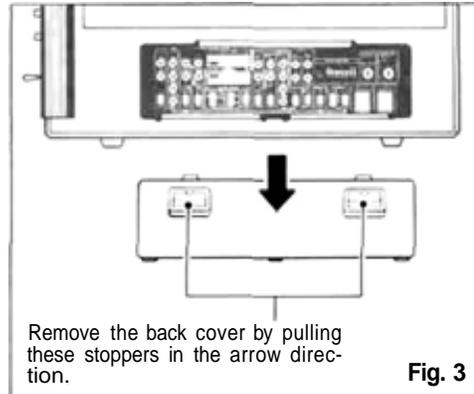

Fig. 3
- Removal of this cover exposes the trimmer panel. Remove as shown in Fig. 3.